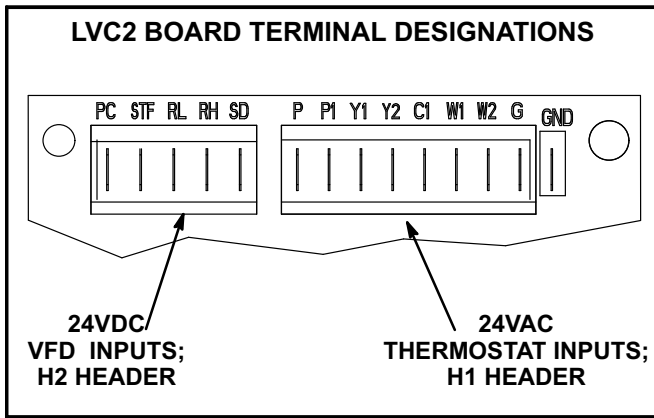

FIGURE 22
- 3- Check for 24VAC signal at the thermostat blower input (G to GND terminal). See figure 22.